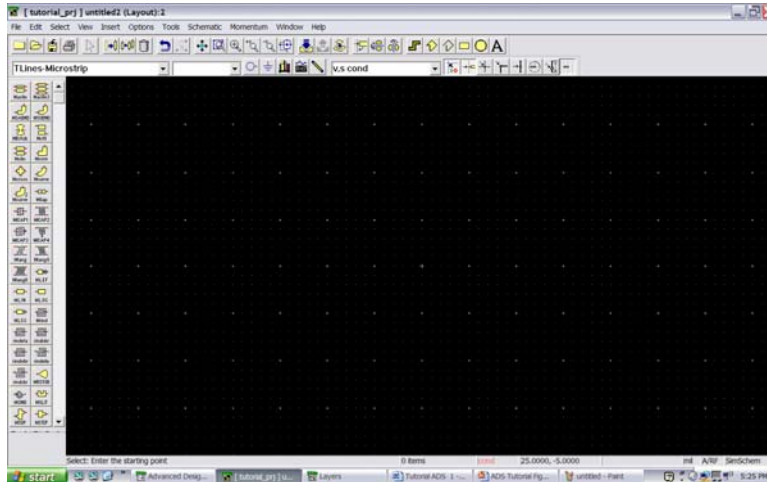

Figure 1. Momentum layout window.
1. Start ADS and create a new project by selecting “File → New Project” item. You can call this project Tutorial. Start a new layout by clicking on the “New Layout Window” button (). A new layout drawing window appear. This is shown in Figure 1.